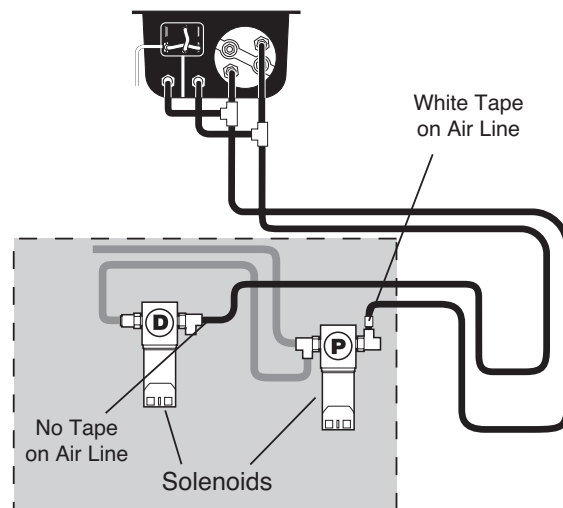

fig. 26
1. Connect the white-taped air line to the one open leg of the tee fitting on passenger side solenoid (Fig. 26).
2. Connect the air line with no tape to the open leg of the tee fitting on the driver side solenoid (Fig. 26).